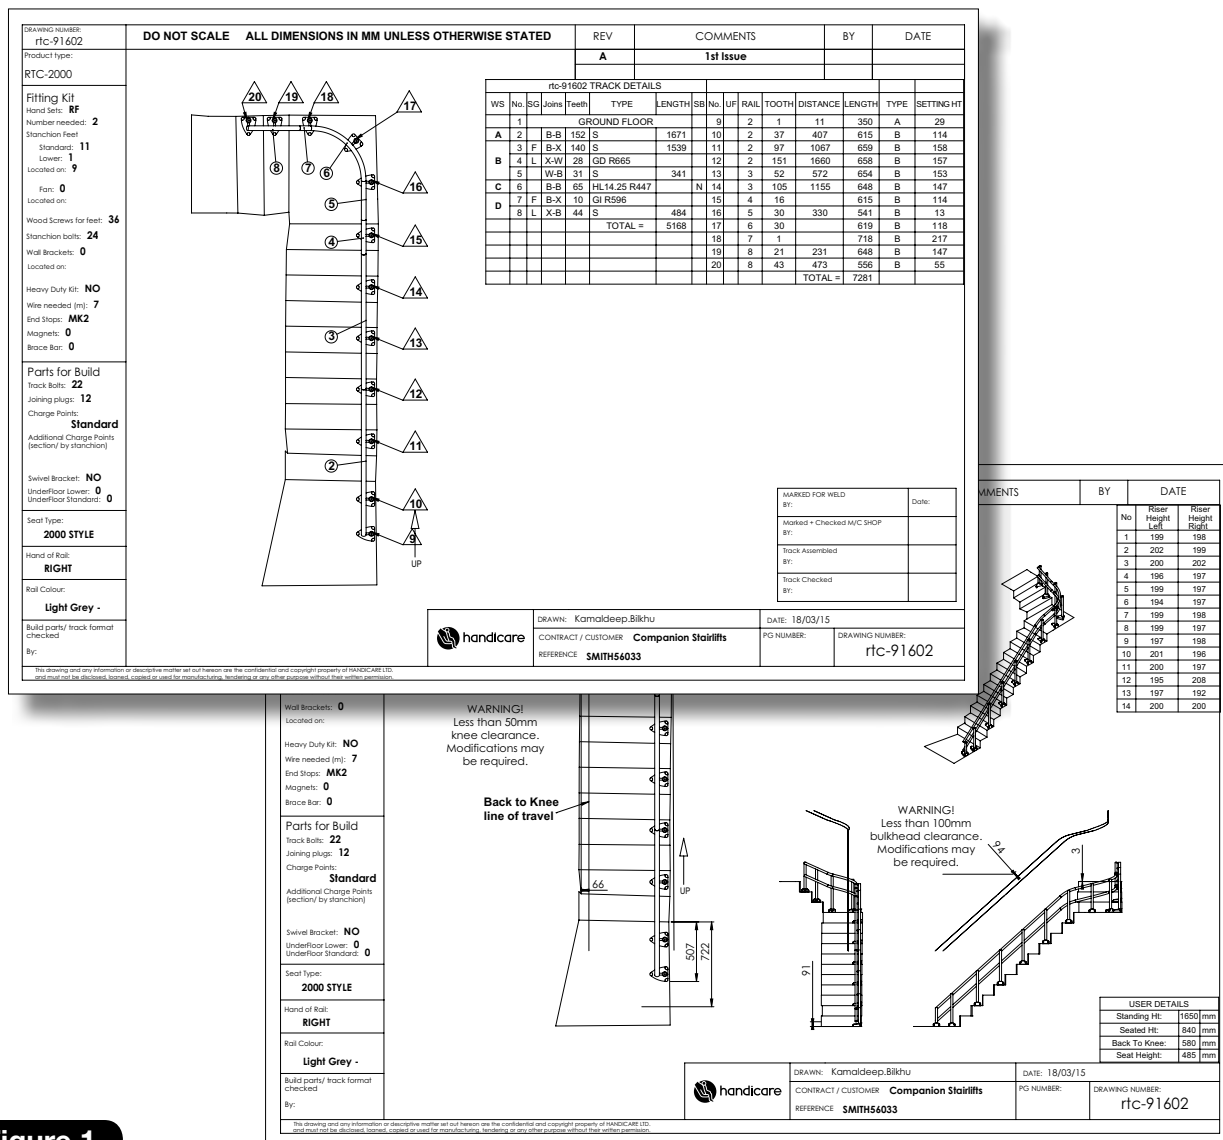

Figure 1
- 1 Study the drawing provided. This will be similar to the one shown below (**Figure 1**). See **Appendix 4** for a larger version of this example.